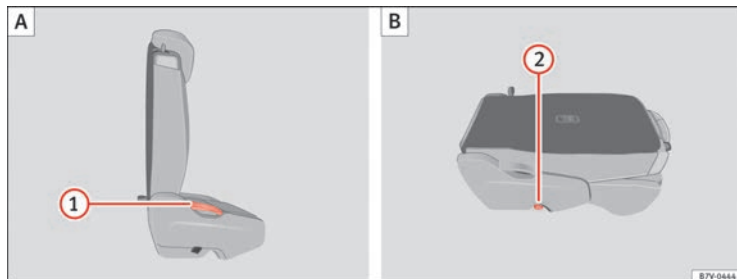
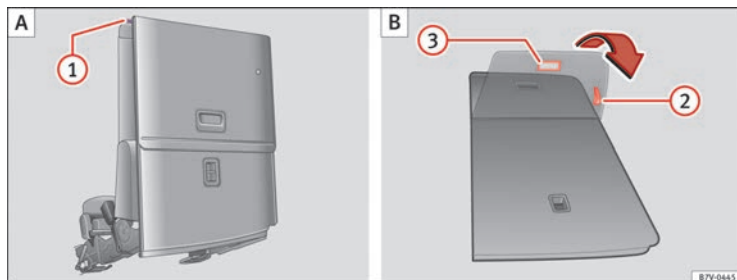

Fig. 89 Second row of seats: folding the rear seat (A), rear seat as load space (B)
Fig. 90 Third row of seats: fold down the rear seat to load (A) then return to position (B)
- Remove objects from the footwell in front of and behind the rear seat ⇒ ⑩.
- Pull lever ⇒ Fig. 89 ① back and fold the seat backrest forwards. The complete rear seat folds forward ⇒ ⚠.
- Fold the seat backrest forwards until it locks into the load surface position ⑧.
- If necessary, pull on the lever ⇒ Fig. 90 ② to move the seat to the required position.
- Pull lever ⇒ Fig. 89 ① upwards and place the seat backrests in vertical position. The entire seat folds backwards.
- Pull on the handle ⇒ Fig. 90 ② to put the seat tray back in position.
- Pull on the handle ③. The entire seat folds backwards.